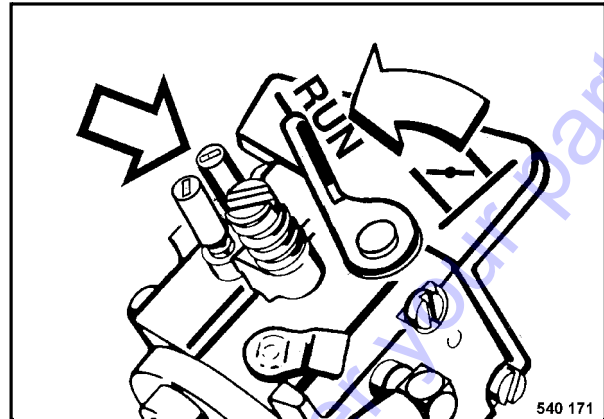

Fig. 6
- Turn the main nozzle (Fig. 6) in clockwise direction.